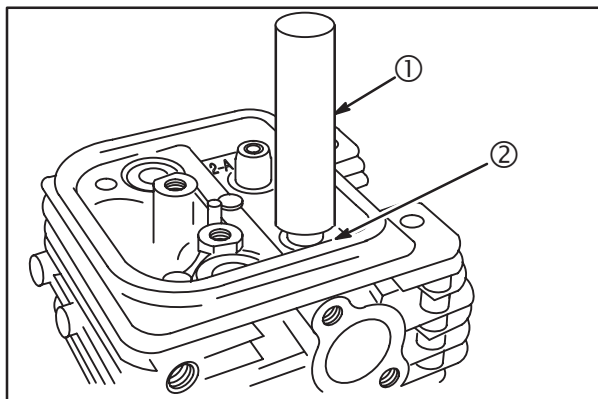

Fig. 17
1. Use Valve Guide Driver (1) #19416 to install new valve stem seals (2), Fig. 17.